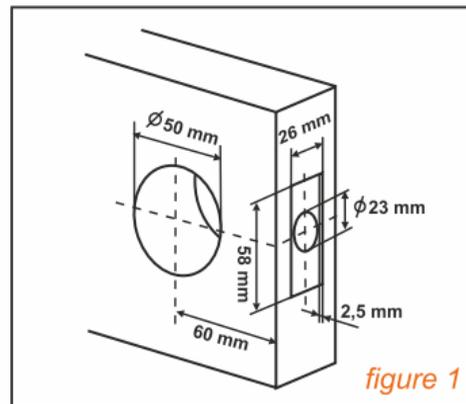

figure 1
3.1. Mark the holes in accordance with *figure 1*. Compare the sizes with those of installation scheme. Drill two holes in the door with 50 and 23 mm in diameter. In the middle of the lateral part of the door choose the installation place for the cleat of the inside latch sized 58x26x2.5 mm. Mark and choose the installation spot for the strike plate on the door. Fasten the strike plate.